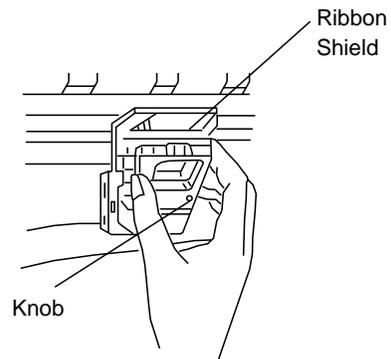

Figure 6-2. Model 602 ROP Ribbon Cartridge
- 7.3. Grasp the ribbon cartridge and pull up to unseat the cartridge as shown in Figure 6-2.